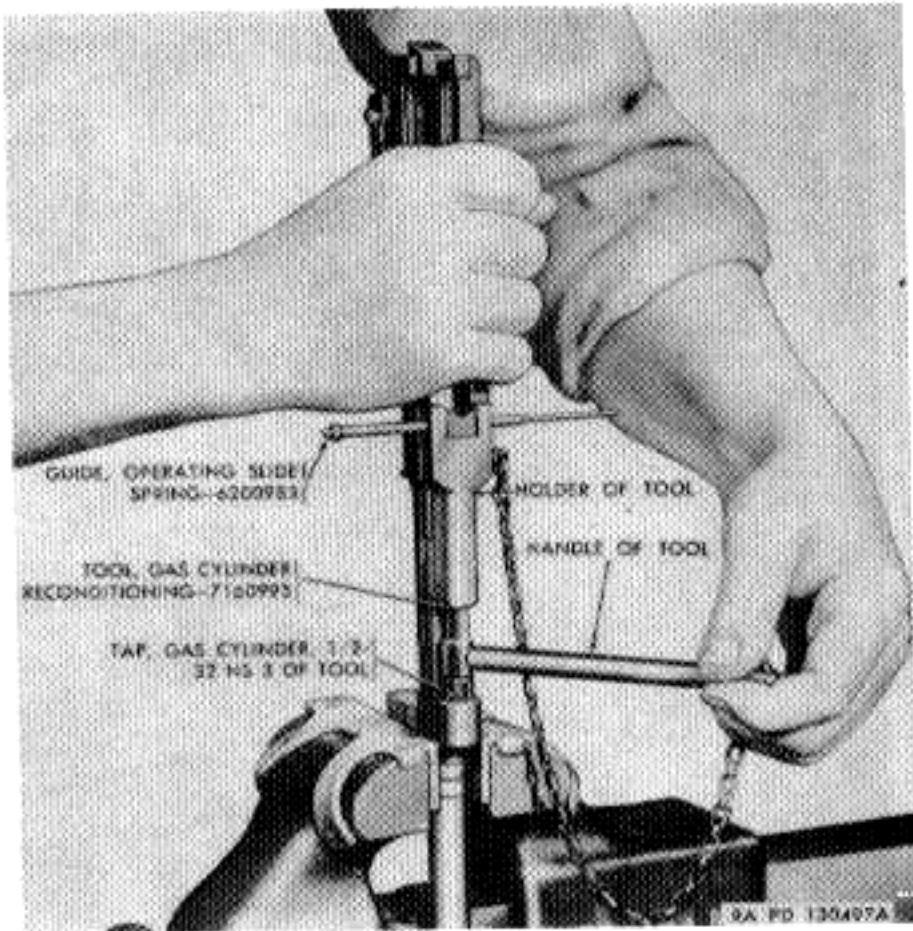

Figure 83. Chasing gas cylinder thread.
Note. When using the head space gage, disengage the bolt from the operating slide. There are two types of head space gages assigned the same stock numbers for same sizes. If the gage is of the design that has a rim, place the rim carefully under the extractor against the face of the bolt (Fig. 83), if the extractor is assembled, thereby avoiding snapping the extractor over the gage. When the other type (shouldered), is used, it is inserted into the chamber first and the bolt closed on it. In closing the bolt to check the depth of the chamber, exert only the lightest finger pressure and make sure that the hammer does not exert pressure against the bolt.
a. *Chasing Gas Cylinder Thread.* Chase threads of the gas cylinder, using gas cylinder tap member of tool 7160995 (Fig. 83). Dip tap in a cutting oil and start tap carefully in gas cylinder. Cut threads a little at a time, using a forward and backward movement. Exercise care to stop tap as soon as it
*b. Gas Cylinder Piston and Nut.* Insert gas cylinder piston into cylinder and screw cylinder piston nut into the threads using gas cylinder reconditioning tool 7160995 (Fig. 83) (with component wrench). Make certain to stake the cylinder lightly into the nut, in one of the three places provided, or the nut may work loose during the firing of the carbine. After the piston and nut are assembled in the gas cylinder, check to assure that there is no binding (page 82).